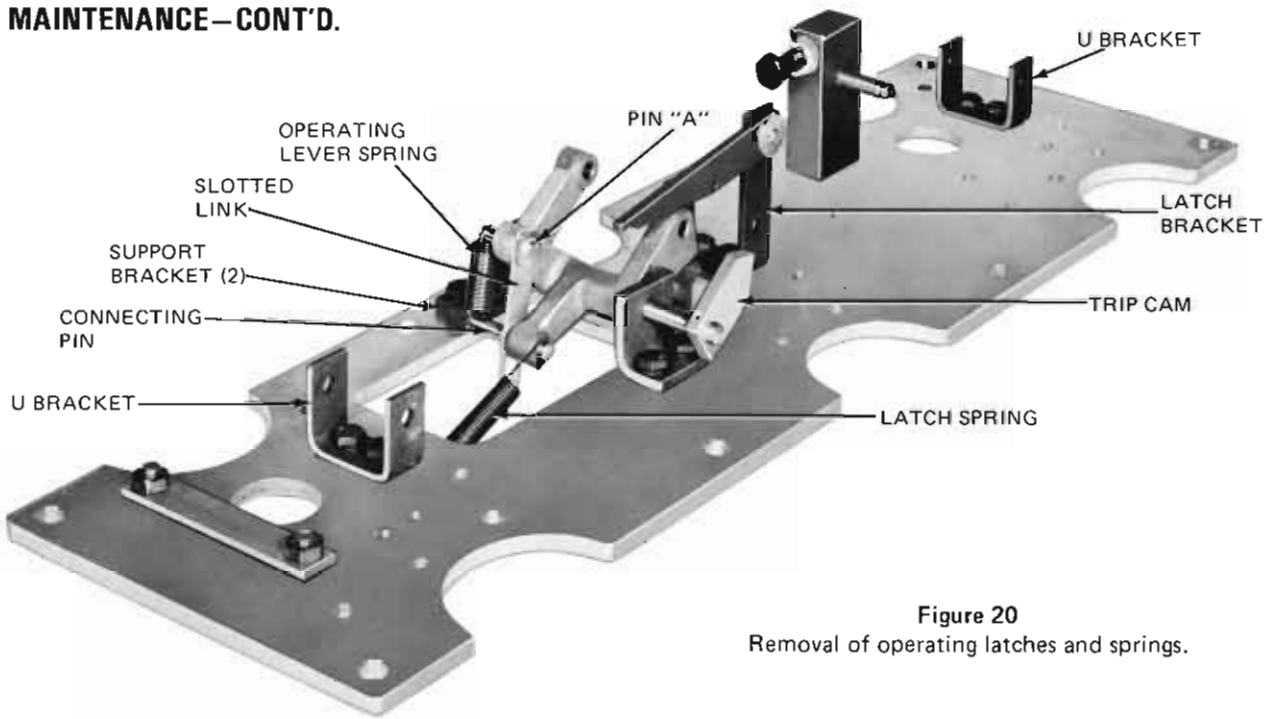
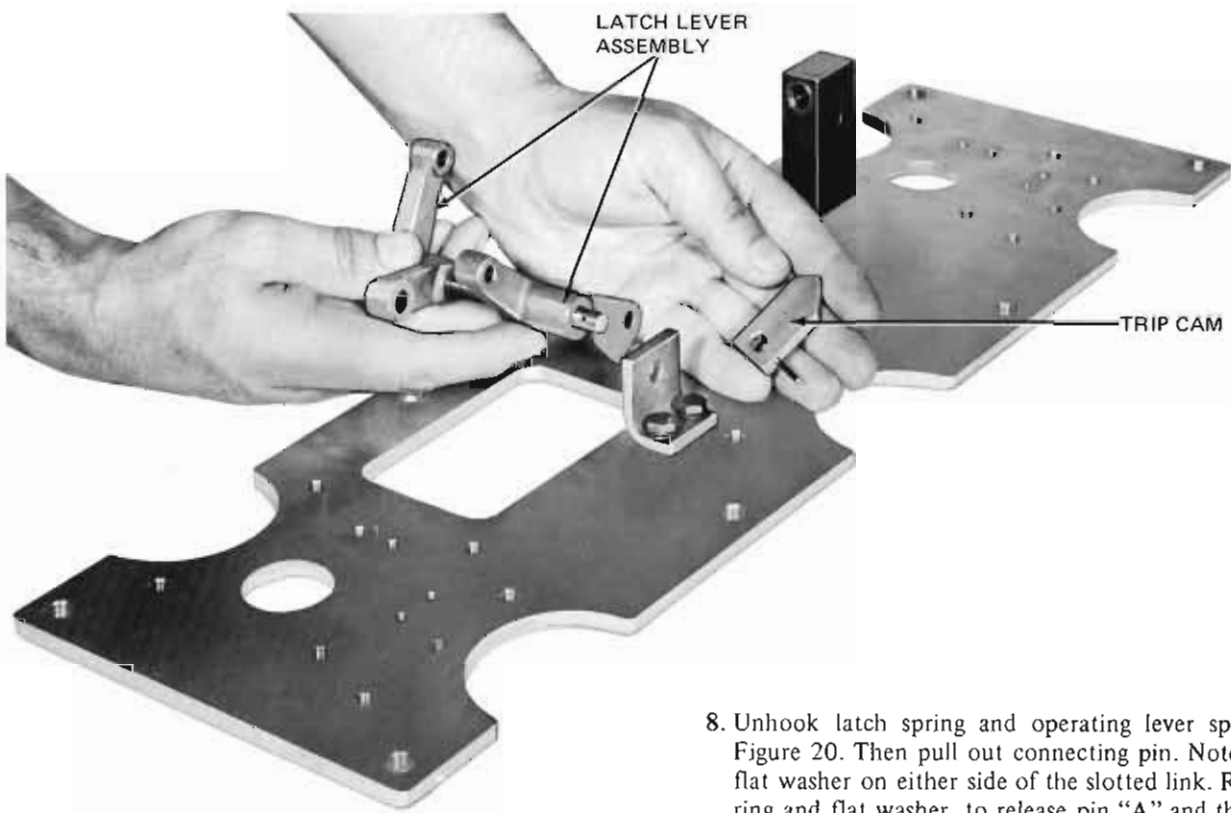

Figure 20
Figure 21
8. Unhook latch spring and operating lever spring. See Figure 20. Then pull out connecting pin. Note use of a flat washer on either side of the slotted link. Remove C ring and flat washer, to release pin "A" and the slotted link.
10. Drive out roll pin in trip cam, Figure 20, enough to release shaft. Remove support bracket on opposite side. Then lift out latch lever assembly as shown in Figure 21.